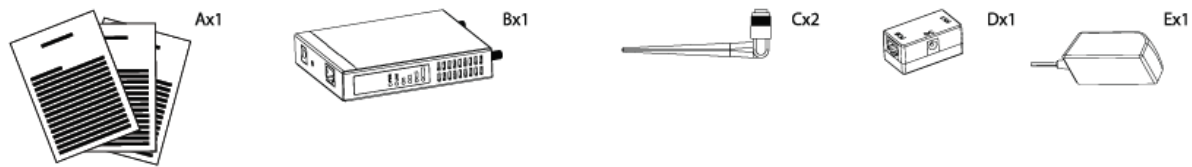

Figure 1 – APC 2Mi Package Contents
- Step 2.** Connect omni antennas (item C in the *Figure 1 – APC 2Mi Package Contents*), Ethernet cable and power adapter (item D and E in the *Figure 1 – APC 2Mi Package Contents*), to the APC 2Mi: